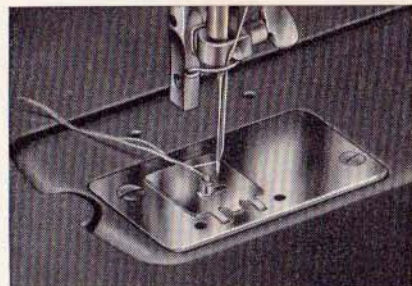

Fig. 48.
- b. Select eyelet embroidery cover plate with center stud matching the desired size of eyelet ($1/8$ ", $3/16$ " or $7/32$ " diameter, fig. 48) and place it on the needle plate.